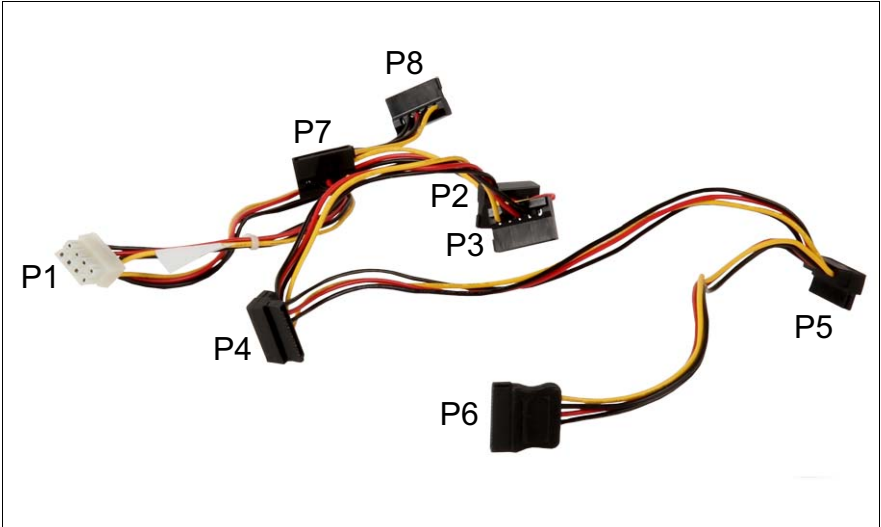

Figure 224: Power cable T26139-Y4012-V101
- ▶ Disconnect SATA power cable connector P8 from the optical disk drive. See figure 224 on page 330.
- ▶ Connect the new SATA power cable connector P8 to the optical disk drive. See figure 224 on page 330.
- ▶ Disconnect the defective power cable connector P7 from the power adapter cable. See figure 224 on page 330.
- ▶ Connect the new power cable connector P7 to the power adapter cable. See figure 224 on page 330.
- Disconnect the SATA power cable from the HDDs (see figure 224 on page 330).
- ▶ Connect the new SATA power cable to the HDDs (see figure 224 on page 330).